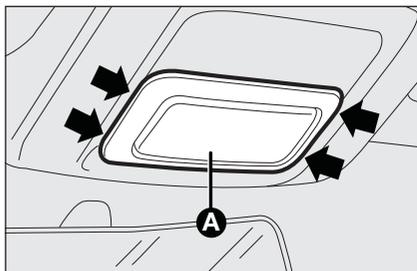

fig. 25
- using the screwdriver provided, extract the roof light **A**-fig. 25 working in the point indicated by the arrow;